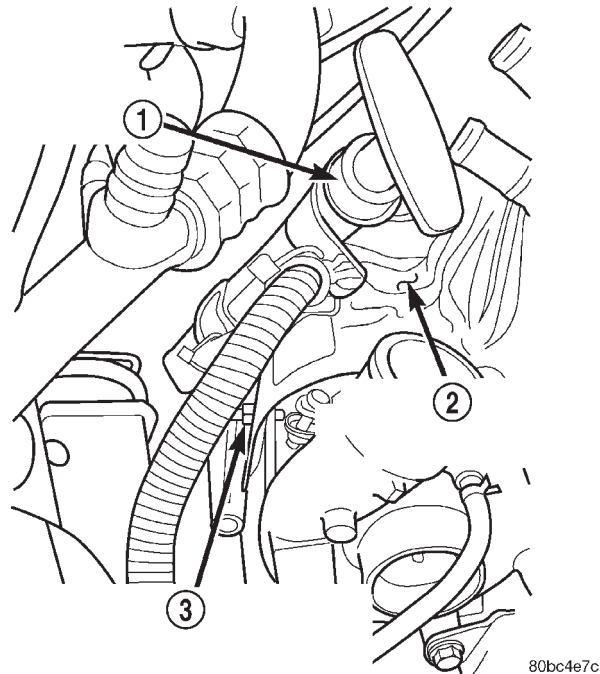
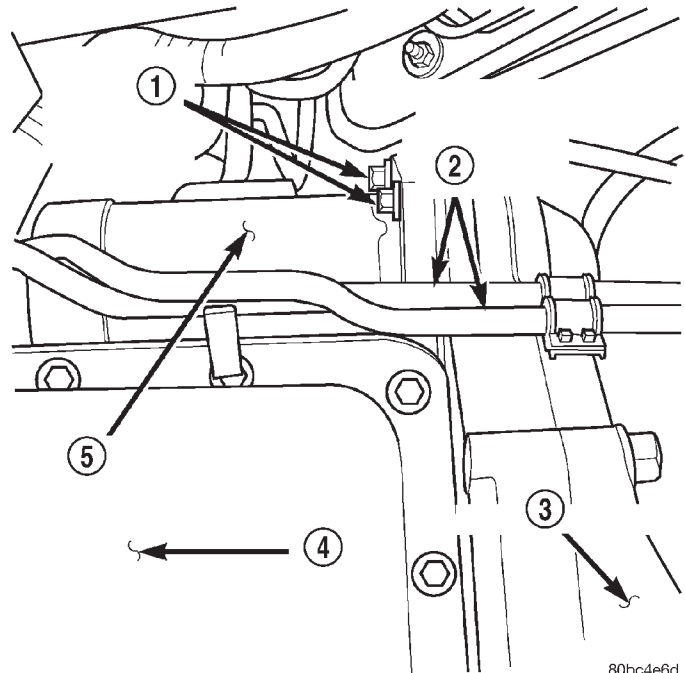

Fig. 14 Transmission Dipstick Tube Support Bracket
Fig. 15 Starter Motor Position & Orientation
(52) Disconnect the black and gray 10-way electrical connectors from the engine wire harness.
(53) Disconnect the A/C compressor clutch and glow plug harness electrical connectors.
(54) Remove the transmission dipstick tube support bracket retaining nut from the turbocharger heatshield (Fig. 14).
(55) Raise the vehicle on the hoist.
(56) Disconnect the starter motor electrical.
(57) Remove the starter motor retaining bolts and remove the starter from the vehicle (Fig. 15).